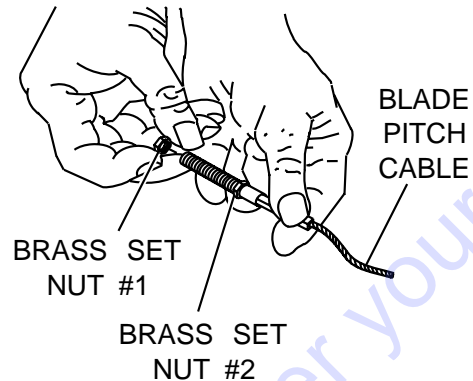

Figure 10. Blade Pitch Cable
3. Remove brass set nut #1 from the blade pitch cable end. See Figure 10.
4. Thread the brass set nut #2 towards the cable as far as possible. See Figure 10.